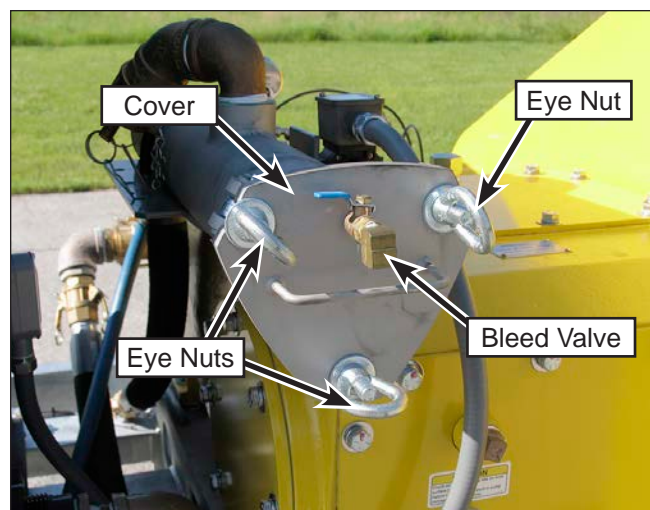

Figure 18: Filter Cover.
1. Relieve pressure from the housing using the bleed valve then loosen the three eye-nuts (Figure 18) on the filter cover.